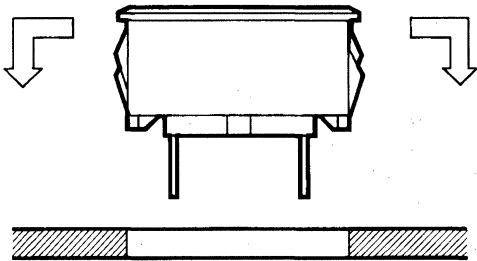

Figure 2. Installation of the Light Bar/Panel Mount Assembly into a Front Panel.
3. Applying even pressure to the top of the mount, press the entire assembly into the hole from the front of the panel^[5]. (See Figure 2.)